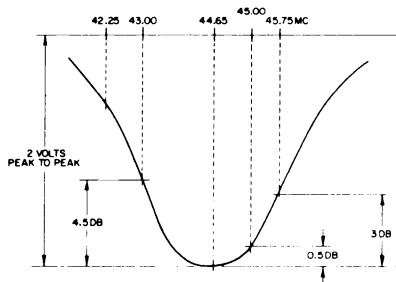

Figure 14 - Typical IF Response, 2nd IF Amp Grid to 2nd Det.
| 2. | Oscilloscope and VTVM to TP ⑥. IF sweep generator with CW marker to TP ⑦. a. 44.65 MC. b. 45.75 MC. | a. T202 primary (top slug): Maximum amplitude on VTVM. T202 secondary (bottom slug): Rocking symmetrical response at 44.65 MC. b. Place 45.75 MC marker at 70% of peak response (see Figure 14) for waveshape and marker placement. |